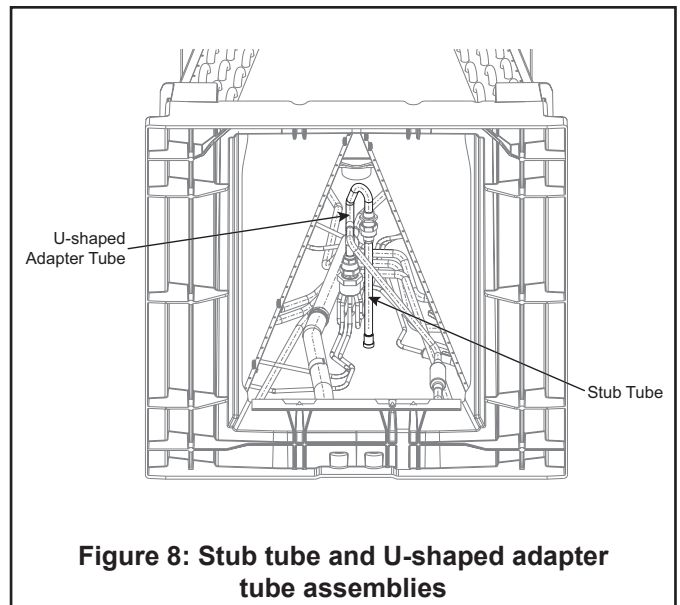

Figure 8: Stub tube and U-shaped adapter tube assemblies
- a. If existing flow control assembly is oriented such that EEV stepper motor is in front of distributor fitting, remove the stub tube assembly using a back-up wrench. See Figure 8.
- b. If existing flow control assembly is oriented such that EEV stepper motor is behind distributor fitting, remove both the stub tube and U-shaped adaptor assemblies using a back-up wrench. See Figure 8.